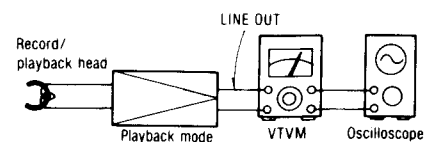

Fig. 2
1. Make connections as shown in fig. 2.
- Test equipment connection is shown in fig. 2.
1. Test equipment connection is shown in fig. 2.